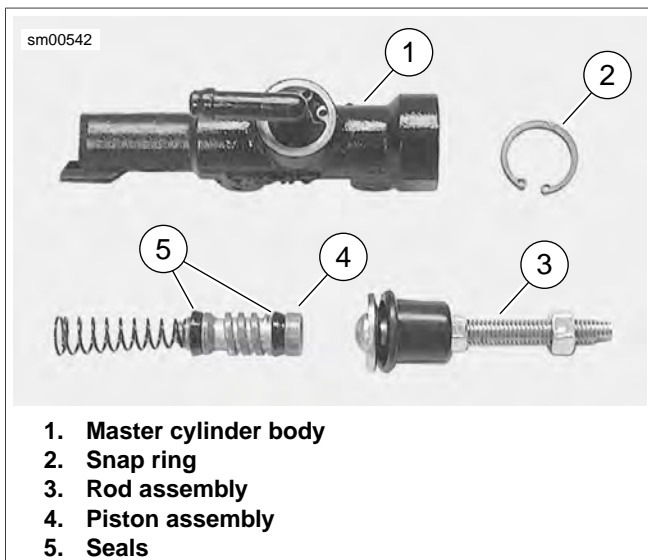

Figure 2-73. Master Cylinder Internal
1. See Figure 2-73. Slide rubber boot on rod assembly (3) away from master cylinder body (1).
2. Depress rod assembly (3) and remove internal snap ring (2). Discard snap ring.
3. Remove piston assembly (4) from master cylinder body (1).
4. Loosen adjuster locknut on the rod assembly (3).
5. Remove the clevis from the rod assembly (3).
2. See Figure 2-73. Assemble **new** piston components placing small end of spring behind primary seal of piston (4).
3. Lubricate master cylinder body (1) and piston seals (5) with **D.O.T. 4 BRAKE FLUID**.